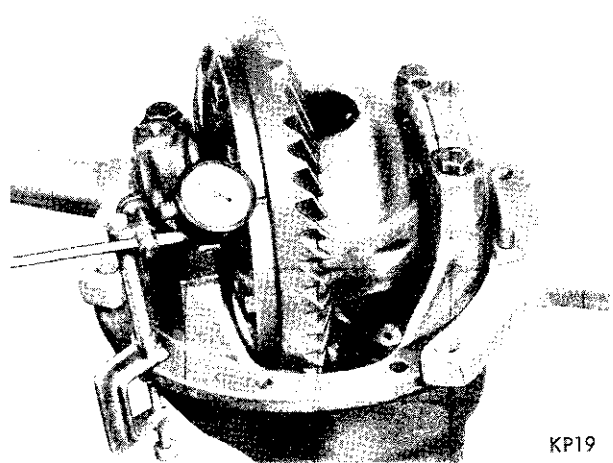

Fig. 16—Checking for Runout and Zero End Play
(1) Mount carrier in Stand DD-1014 and attach dial indicator Tool C-3339 to differential carrier flange in a position so pointer of indicator squarely contacts back face of ring gear (Fig. 16). With a screw driver positioned between bearing cap and differential case flange, then using a prying motion determine if side play is present. If side play is evident, remove adjuster lock and loosen adjuster slightly and retighten adjuster sufficiently to eliminate side play.